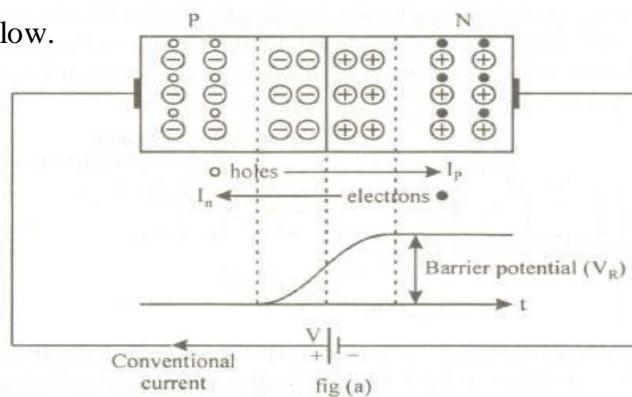

Fig.1.8 Forward biasing of p-n junction
b) Forward bias: The forward bias condition is shown in figure 1.8 .The condition under forward bias is explained below.
- To apply forward bias, connect +ve terminal of the battery to p-type and –ve terminal to n-type as shown in fig 1.8 below.
- The applied forward potential establishes the electric field which acts against the field due to potential barrier. Therefore the resultant field is weakened and the barrier height is reduced at the junction as shown in fig 1.8.